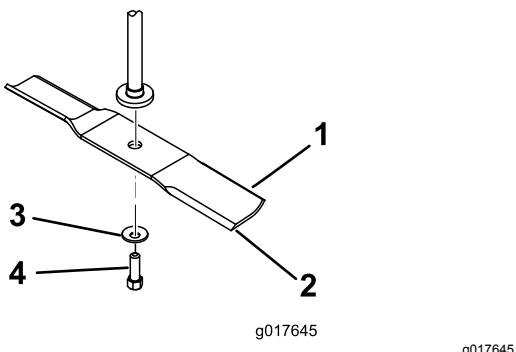

Figure 53
Hold the blade end using a rag or thickly-padded glove. Remove the blade bolt, curved washer, and blade from the spindle shaft (Figure 53).
2. Install the curved washer (cupped side toward the blade) and the blade bolt (Figure 53).
1. Install the blade onto the spindle shaft (Figure 53).